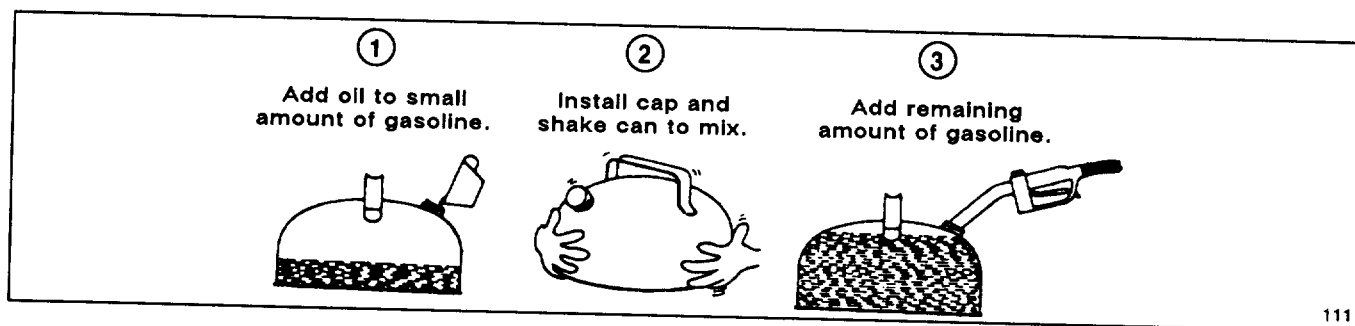

Figure 8
2. **Mixing Gasoline and Oil** (Fig. 8)—Pour correct amount of two-cycle oil into an approved gasoline container and add a half gallon of gasoline. Install cap on gasoline container and shake the container to mix oil and gas thoroughly. Remove cap and add remaining amount of gasoline.